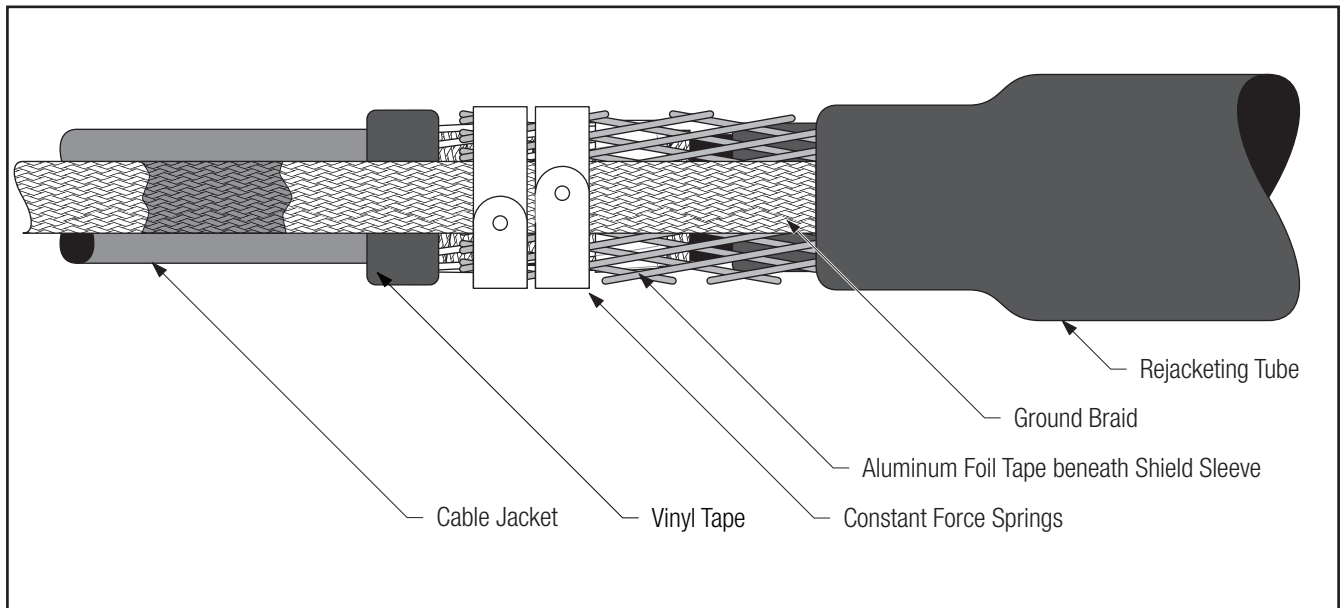

Figure 17
- 5.2 Hand-tighten the shield sleeve outward and secure it, along with the ground braid, to the neutral wires, tape or LC shields on either side of the splice using two constant force springs on each end between the vinyl tape at the jacket edge and the aluminum foil tape or copper foil tape as shown (*Figure 17*).
- 5.3 If shield sleeve extends beyond neutral wires, it may be interwoven with the constant force springs. Trim excess ground braid if needed. Cinch (tighten) the spring after wrapping the final winding (*Figure 17*).